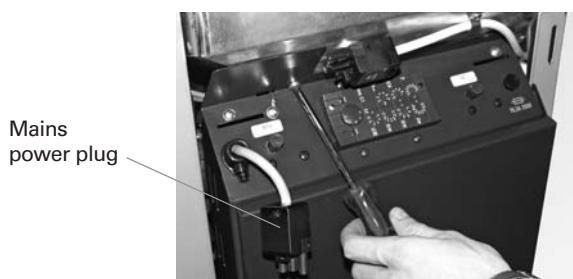

Fig. 149 Removing the power plug and screw
- Unhook the right side panel cladding and disconnect the mains power plug over the control panel – Fig. 149
- Remove the screw under the mains power plug on the control panel (Fig. 149) and swivel open the control panel.